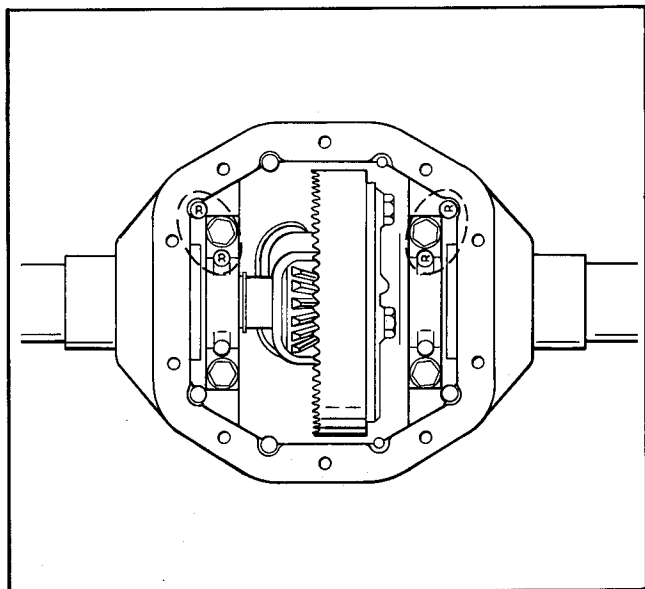

Figure 4-19 - Bearing Cap Identification
- e. Remove differential bearing cap bolts (38). Bearing caps are marked for location identification along with the carrier. See Figure 4-19. When reassembling, the caps must be installed in their original position. Remove bearing caps (37).